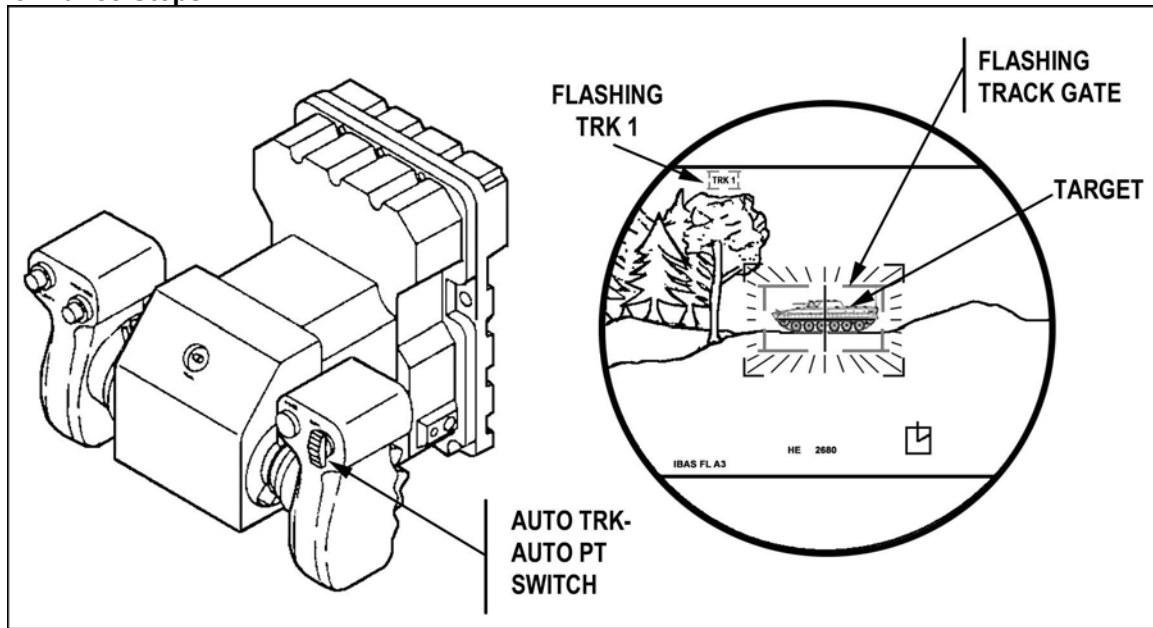

Figure 14. AUTO TRK\_AUTO PT switch.
- (1) Rotate the GHS left or right and forward or backward until the target is in the center of the reticle.
- (2) Repeat step (1) as needed to center the reticle on target.
- b. Establish a track gate around a target (Figure 14).